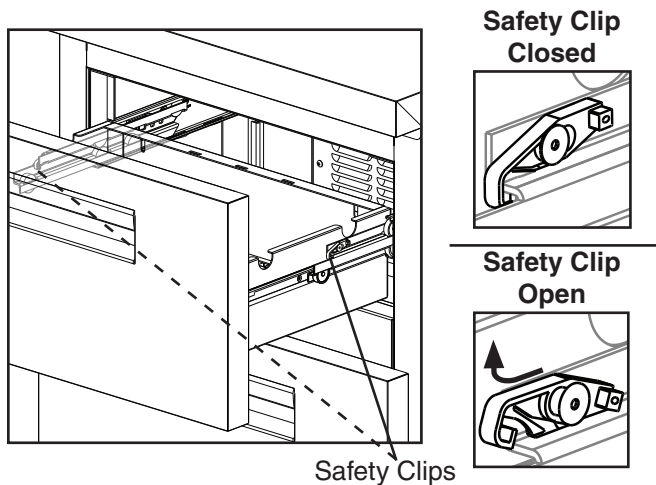

Fig. 45
- **To remove a drawer:** Remove all items from the drawer. Pull the drawer out to its fully extended position. Open the safety clips (one on each side) by sliding them forward, then rotating them up. See Fig. 45. Lift up on the handle slightly, then pull to disengage the drawer. Be sure to support the rear and front of the drawer while removing it.